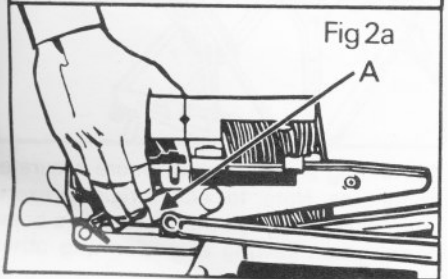

Fig 2a
- 6 Lift the two retainer latches (see Fig. 2a) and let the weight of the vise bars close the unit to a folded position.